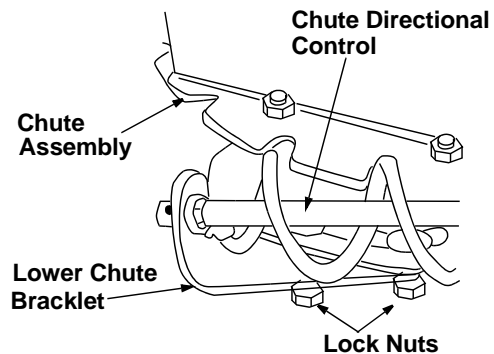

Figure 5
- With the hex nuts loosened on the lower chute crank bracket (see Figure 5) adjust the bracket so that the spiral on the chute crank fully engages the teeth on the chute assembly. Tighten the nuts on the lower chute crank bracket securely.